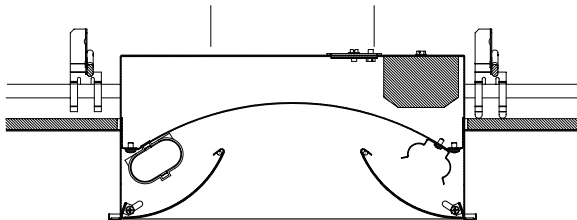

FIGURE 4
4. LIFT LUMINAIRE (LAMPS REMOVED) INTO OPENING WITH LAMP SHIELDS PARALLEL TO HANGERS UNTIL FLUSH WITH CEILING TILE AS SHOWN. (FIGURE 4)